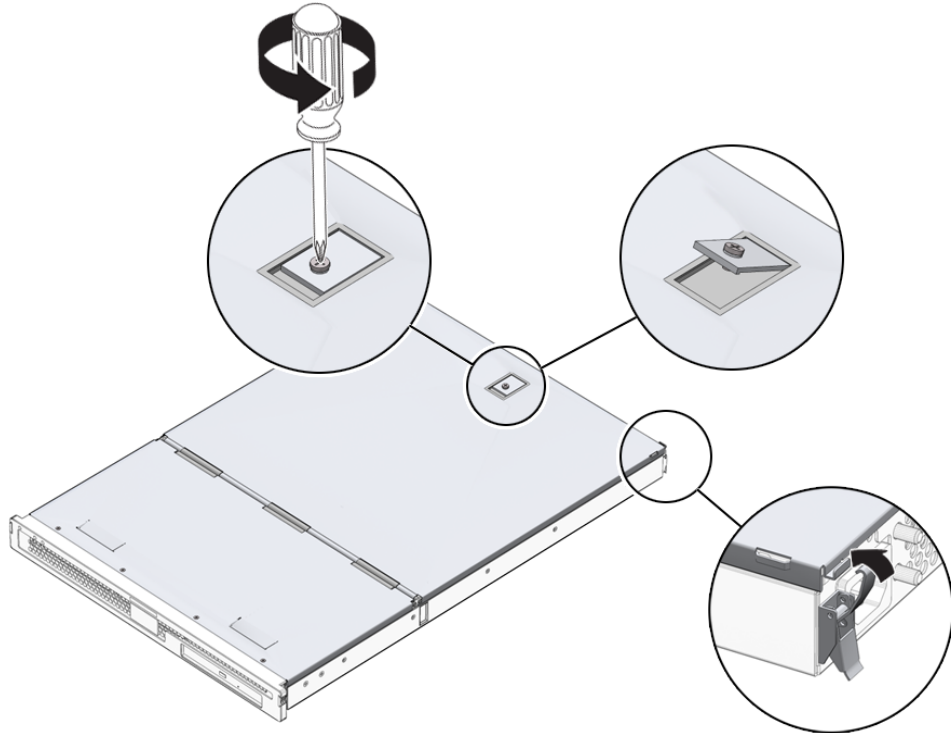

FIGURE 1-4 Location of Captive Screw and Side Catches on Back Section of the Cover
1. Locate the latches at the back of the server and release them (FIGURE 1-4).
2. Undo the captive Phillips screw in the catch on top of the server (FIGURE 1-4).